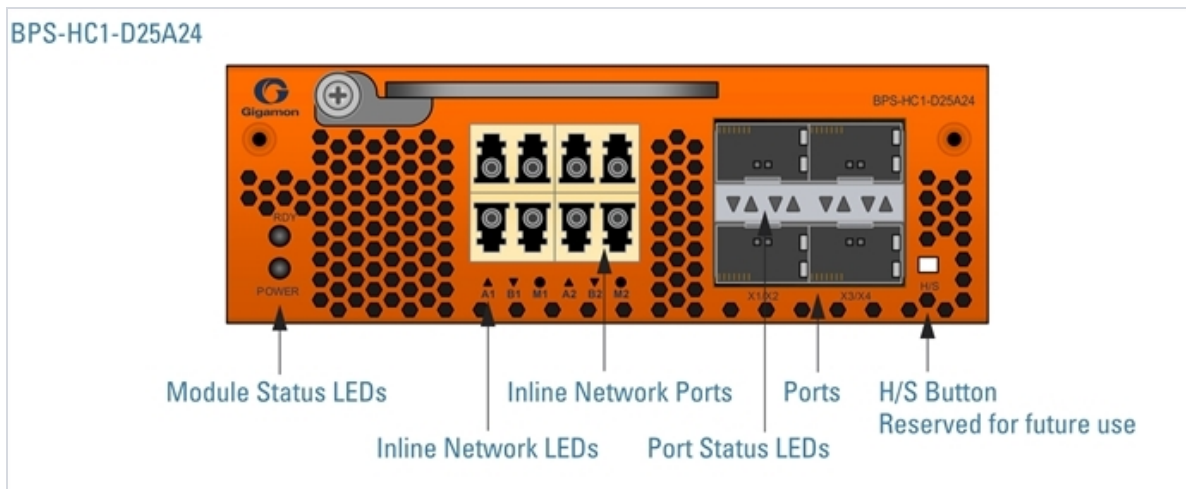

Figure 2: Bypass Combo Module BPS-HC1-D25A24
- Bypass Combo Module with two SX/SR (50/125µm multimode) inline network port pairs and four regular SFP+ and SFP+ copper port cages (BPS-HC1-D25A24) (Figure 2: Bypass Combo Module BPS-HC1-D25A24 on page 17)